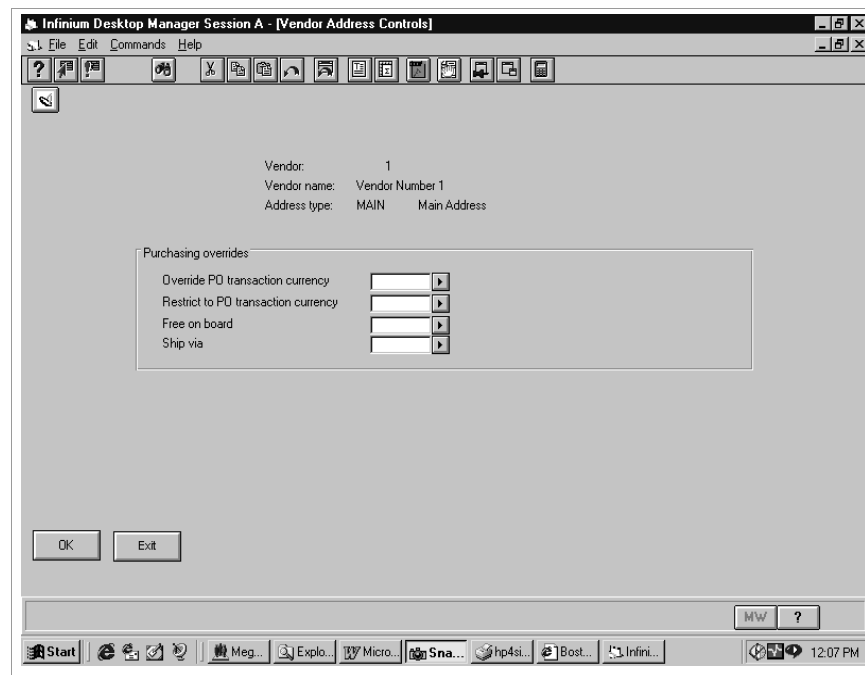

Figure 3-32: Vendor Address Controls screen 3
- 15 Press Enter. The system displays either the screen shown in Figure 3-31 or the screen shown in Figure 3-32, depending on the *Address type usage* value.
- Continues to the screen shown in Figure 3-32 if this is both a remit to and a buy from address type.